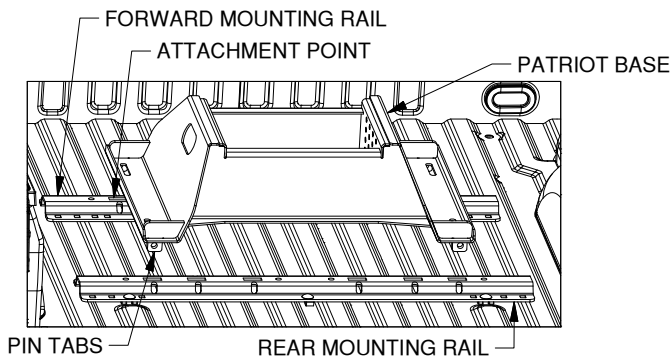

Figure F1: View of truck bed from the tailgate.
1. **Position the forward mounting rail.** For this step the base which will be used in the mounting rails is required. Place a mounting rail into the truck bed in front of the rear mounting rail. Place the base over the rail attachment points and carefully lower it until the pin tabs pass through the attachment points on the rear mounting rail. Attach the forward mounting rail to the forward mounting points on the base, see Figure F1. The base should rest flat against the top of the rails. With the base still attached, ensure that the forward rail is centered in the truck bed.